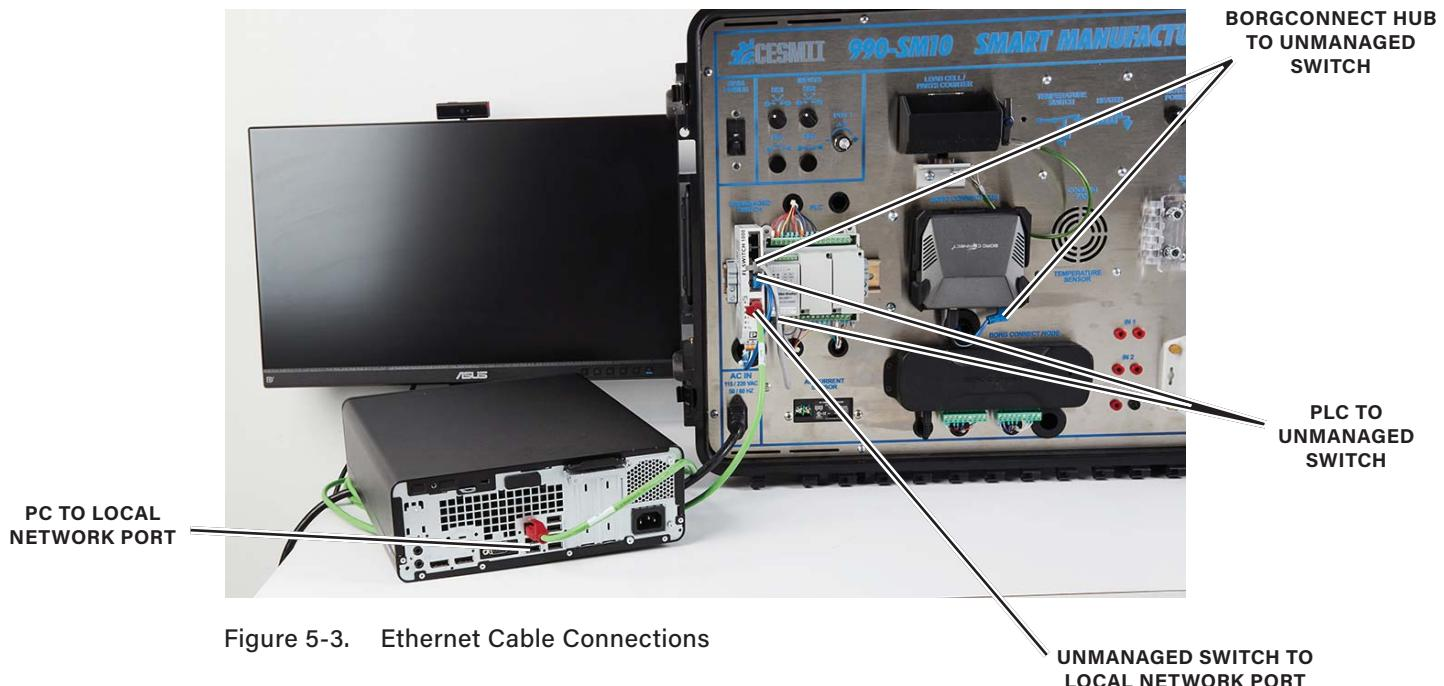

Figure 5-3. Ethernet Cable Connections
- Connect the Ethernet cables between the unmanaged switch, the PLC, and the PC as shown in figure 5-3.